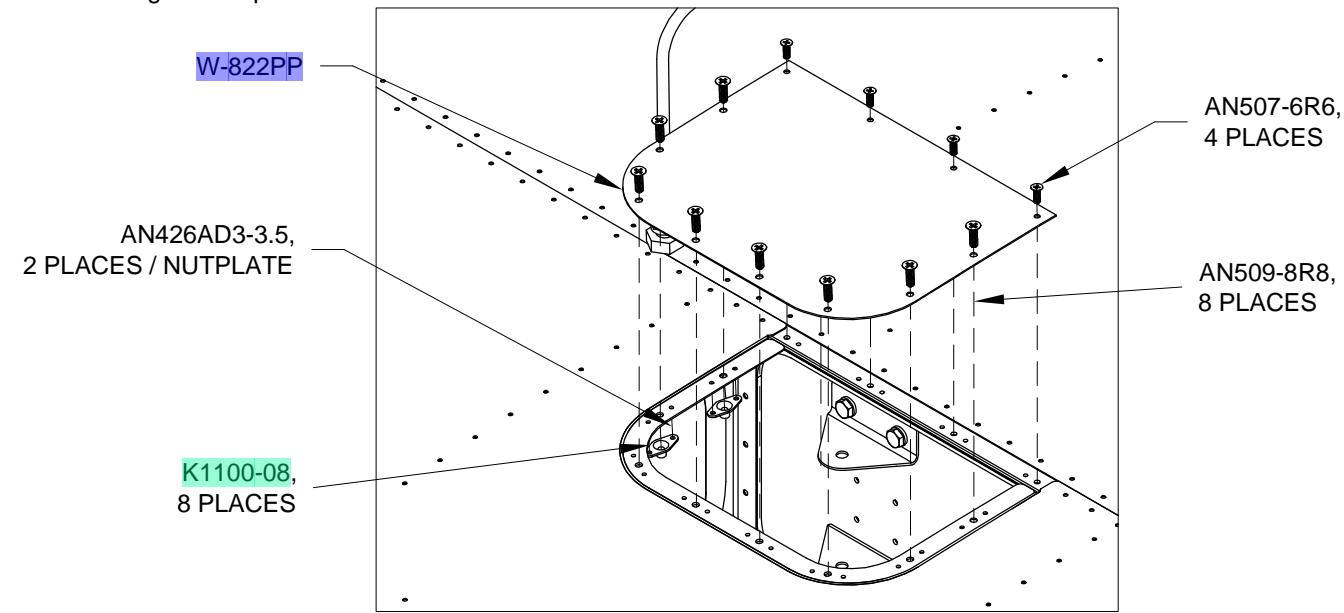

FIGURE 1: TYPICAL WING ACCESS PLATE ATTACH
Step 1: Final-Drill #28 the forward row of holes in the **W-822PP** Wing Access Plate that will be used to attach the plate to the main spar assembly. See Figure 1. Final-Drill #19 the remaining holes that will attach the wing access plate to the bottom skins. Repeat Step 1 for all three wing access plates.
Step 3: Rivet the nutplates that will attach the W-822PP Wing Access Plates to the bottom wing skins. See Figure 1.